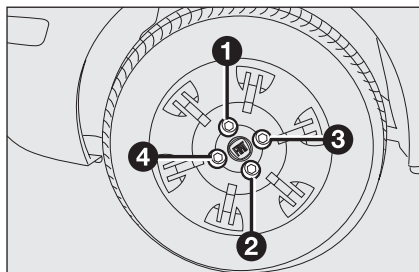

fig. 10
- fasten bolts completely, working in a criss-cross fashion as shown in **fig. 10**.